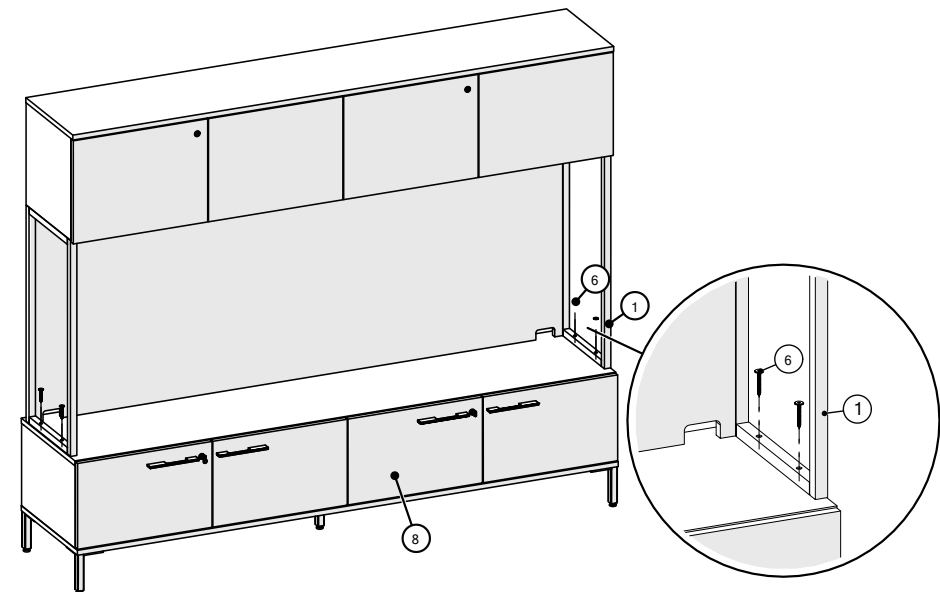

Figure 1
- 2. Attach the hutch to credenza using 50mm long JCB-BW Assembly Lag Bolt, (Figure 1).